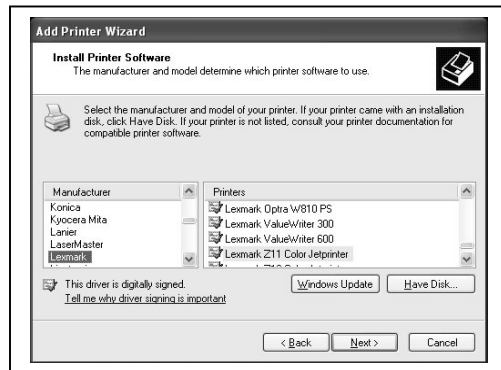
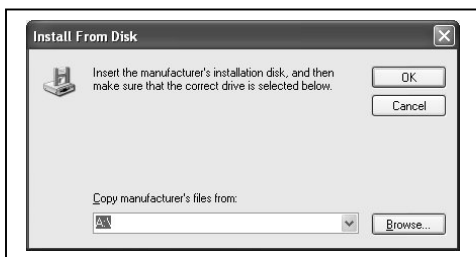
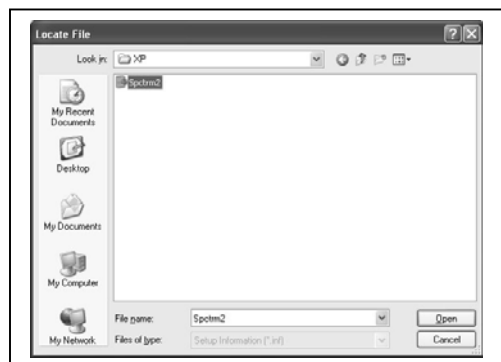

fig 4
fig 5
fig 6
6. Installation completed click *Close* (**fig. 4**).
5. A progress bar will appear (**fig. 4**).
**(fig. 4)**
6. Click *Finish* to finish installation. (**fig. 5**)
**(fig. 5)**
6. In the “Install Printer Software” window, click the “Have Disk” button (**fig 4**). You will then be prompted to “Install from Disk”, click the “Browse” button (**fig 5**). Select the location of the printer driver from your CD-ROM drive in the PC (**fig 6**).
3. Click *Yes* when you are satisfied with your adjustment (**fig. 4**).
4. The picker arm will then place the disc onto the drive tray. Follow the on screen instructions and click *OK* (**fig. 5**).
5. Once you are satisfied with the drive tower alignment, tighten the thumb-screws located on **both** sides of the drive tower (**fig. 6**).
(fig. 4)
(fig. 5)
(fig. 6)
3. Click *Yes* when you are satisfied with your adjustment (fig. 4).
4. The picker arm will then place the disc onto the printer tray. Follow the on screen instructions and click *OK* (fig. 5).